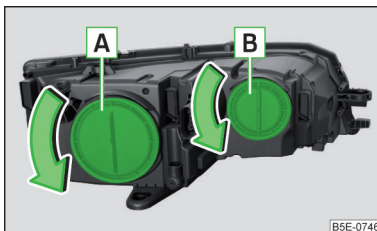

Fig. 348
Bulb arrangement » Fig. 348
- Turn the protective cap **A** » Fig. 348 on page 303 in direction of the arrow.
- Insert the protective cap **A** » Fig. 348 on page 303 and turn it opposite to the direction of the arrow.
- › Turn the protective cap **B** » Fig. 348 on page 303 in direction of the arrow.
- › Insert the protective cap **B** » Fig. 348 on page 303 and turn it opposite to the direction of the arrow.